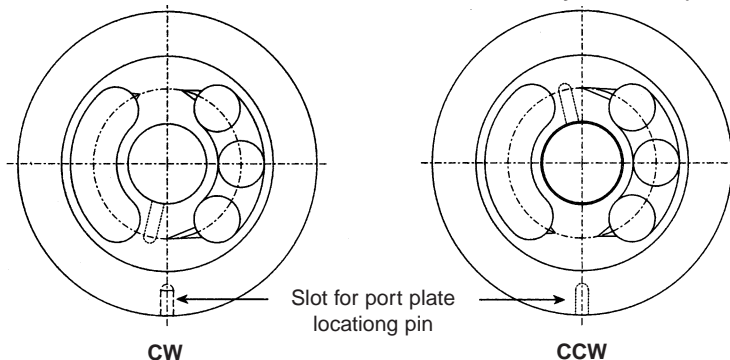
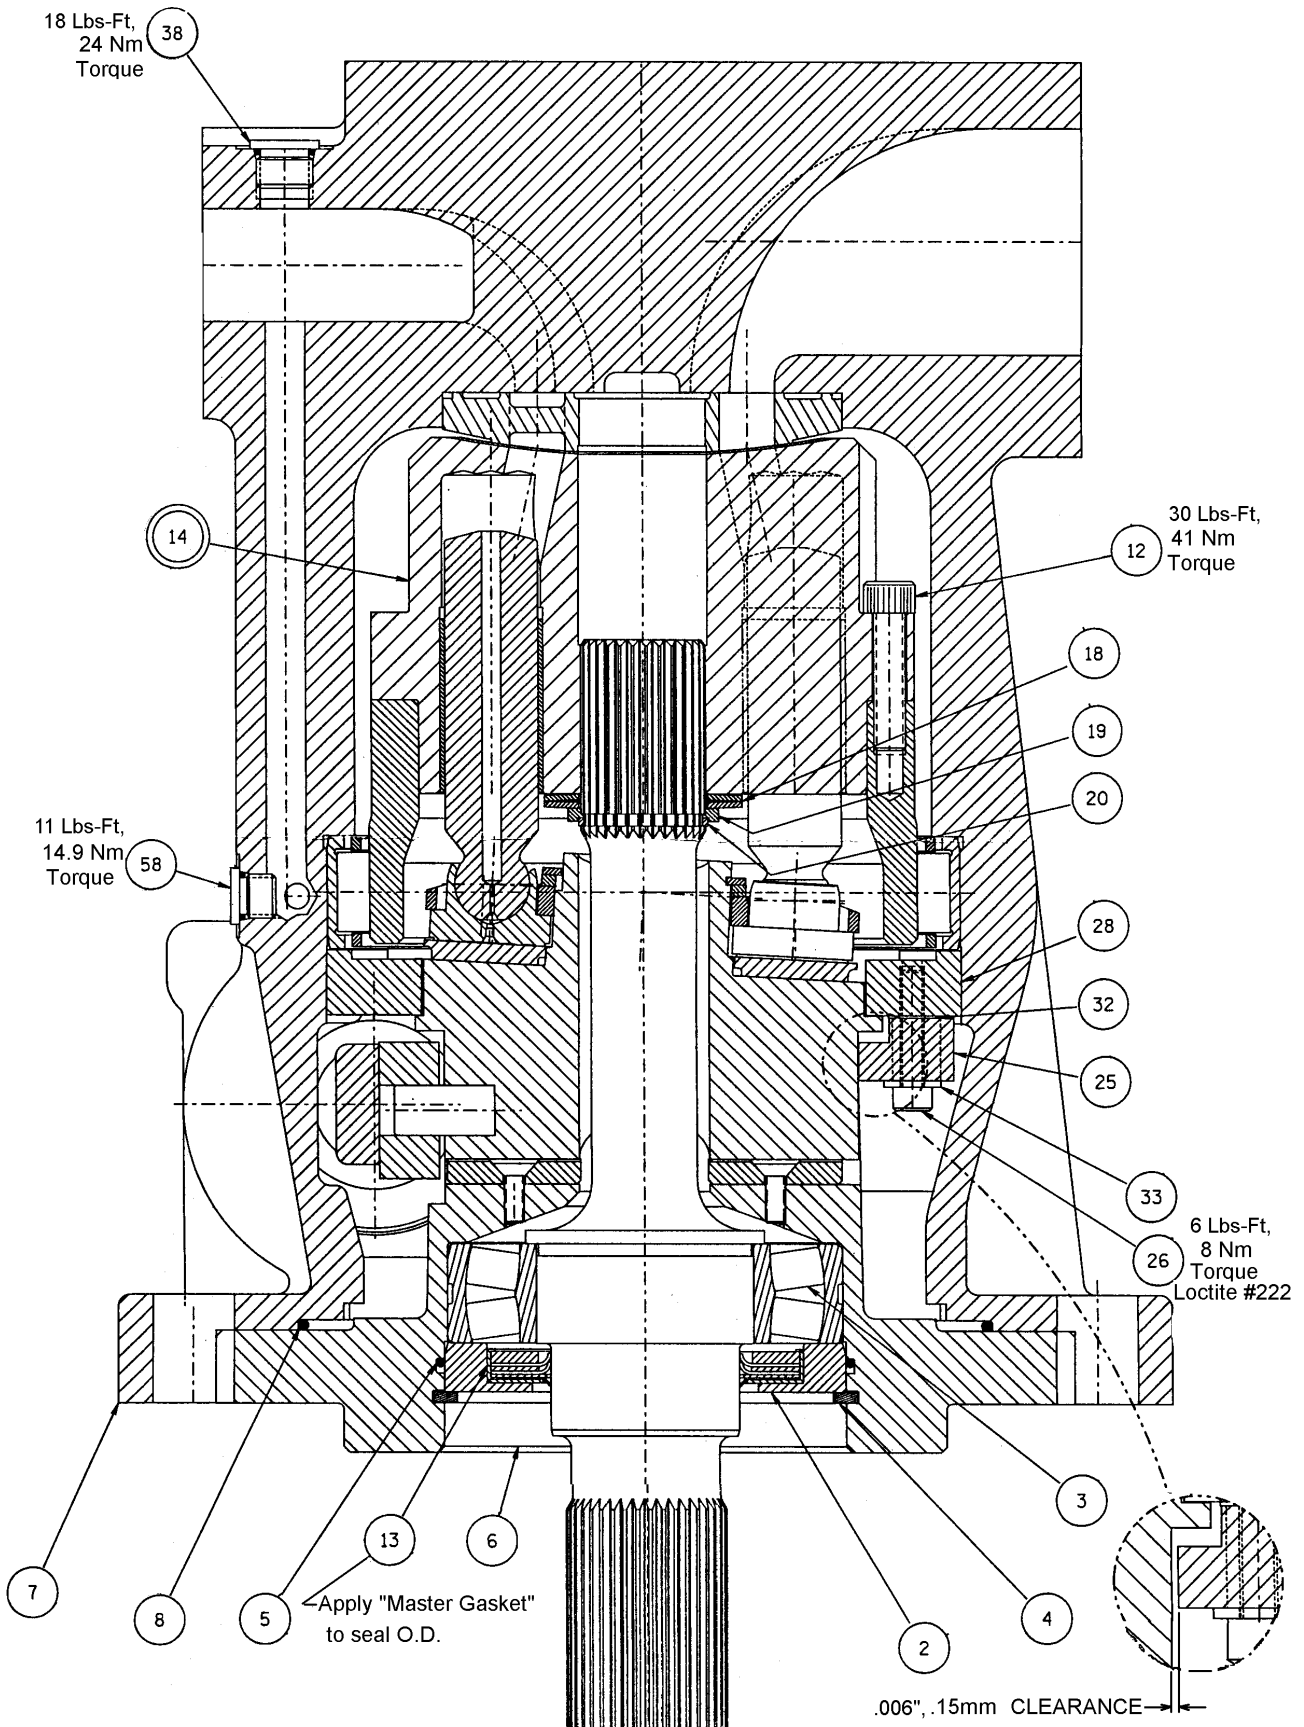

FIGURE 2
FIGURE 3
See Figure 3. Remove two screws (26), two washers (33), clearance bearing (25), and two washers (32) from cam/bearing retainer (28).
See Figure 3. Remove port plate (14-2) from port block.
See figure 3. Press worn or damaged seal from seal retainer.
Refer to Figures 3 through 7: Place the smaller port block end of the housing (7) on a suitable surface capable of supporting the pump weight of 156 lbs., 71 Kgs. Install plugs (38) with "O" rings into port block. Torque to 18 ft-lb, 24 Nm. Install plugs
See Figure 3. Install port plate (14-2) on port block, engaging pin (16). Insure that correct barrel and port plate assembly is being used for shaft rotation specified. **See Figure 2.**
Press outer race of barrel bearing (11) into housing (7) figure 3. The race may also be installed by tapping into position with a brass rod. Care must be taken to tap only the race and not the rollers or roller retainer. **See Figure 8.** Assemble inner bearing race (11) to barrel and sleeve assembly (14-1).
See Figures 3 and 5. Install "O" rings (27) to cam/bearing retainers (28). Assemble cam/bearing retainers to housing. Secure to housing with screws (34) using Loctite® #242. Torque to 84 in.-lb., 9.5 Nm.
Place Belleville washers (18) on barrel as shown in Figure 3. They must be assembled exactly as shown to obtain correct barrel holddown force and insure proper pump operation. Place barrel stop (19) on Belleville washers as shown in Figure 3. Center the washers and the stop on barrel.
See Figure 3. Center Belleville washers and barrel stop. Lower rocker cradle assembly into pump housing with the step in the rocker cradle correctly positioned so that clearance is provided for slide link (40). The 3/8-16 threaded hole in the end of the shaft should be used to support the assembly. The shaft spline must first engage the splined barrel stop (19). It must then pass Belleville washers (18) and then engage the barrel spline. The assembly will then come to rest on the rocker cam.